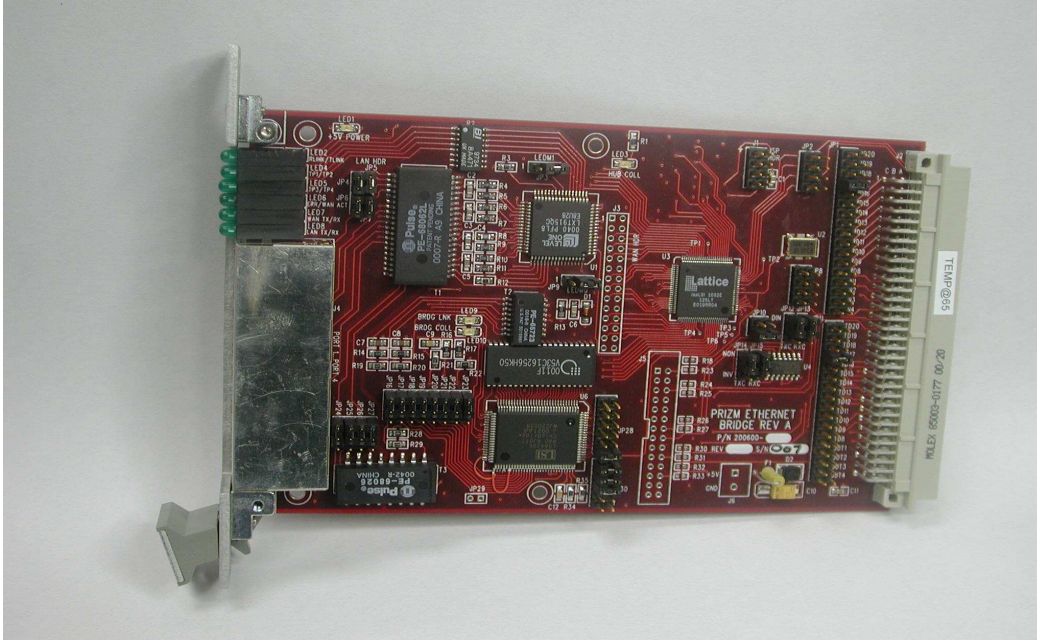

Figure 1 4-Port Ethernet Board Photograph
- Figure 1 4-Port Ethernet Board Functional Block Diagram 5